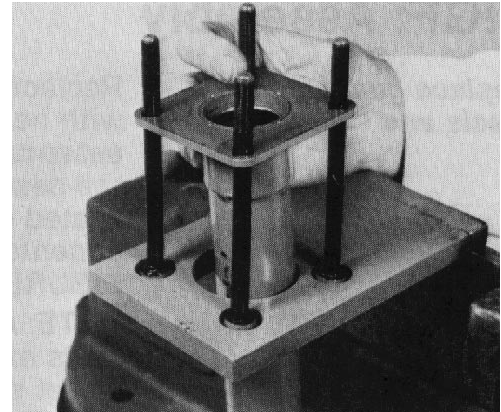

Figure 66
3. Put the upper cover and jacket on the four bolts with the jacket tube pointing down through the hole in fixture (Fig. 66). Make sure the square shoulder of the bolts engage the square holes in the upper cover.